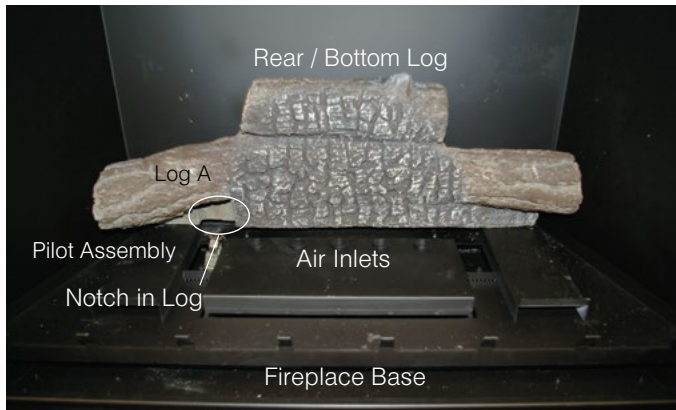

Figure 9a. Bottom Rear Log, (Log A).
Step 2. Place the bottom Rear log (Log A) as shown in **figure 9a**.